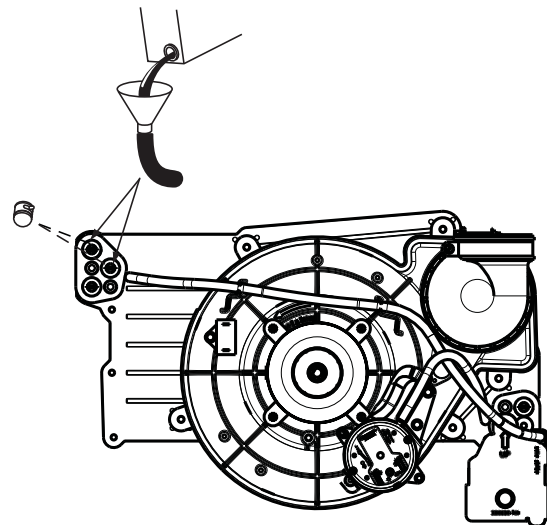

Fig. 63 - Priming Condensate Trap
- Remove the top unused rubber plug from the port on the collector box opposite the condensate trap. See Fig. 63.
- Remove the middle unused rubber plug from the port on the collector box opposite the condensate trap. See Fig. 63.